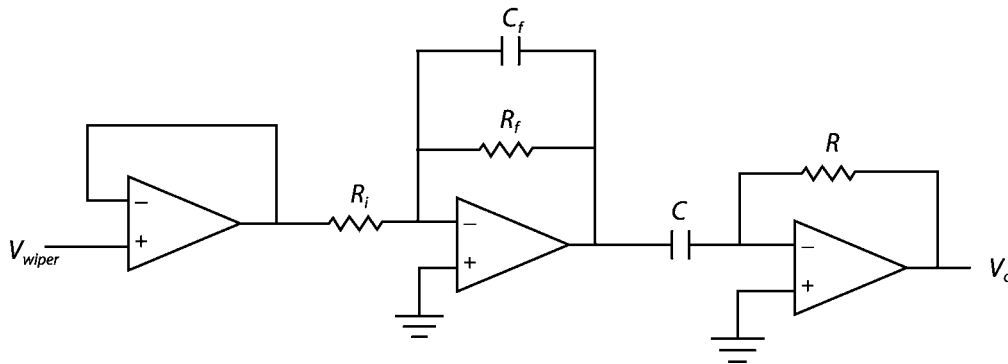

Figure 1: Buffer amplifier filter differentiator circuit.
where V_{in} is the input voltage in volts, θ is the angular position of the wiper in degrees, and θ_{dz} is the angle of the dead zone in degrees. For Equation (1) to be true, we must prevent current from flowing through the wiper (i.e. the input resistance to the circuit the potentiometer is connected to must have a very large input resistance). One effective way of ensuring that no current is drawn from the wiper is to use an op-amp as a buffer (see the first op-amp in the circuit of Figure 1). As you may recall, one of the properties of an op-amp is that its inputs have high input impedances. Therefore, the buffer circuit uses the op-amp to provide the voltage and current necessary to drive the remainder of the circuit while it matches the voltage of the wiper connected to its non-inverting input. A buffer is not required if the data acquisition card of the computer or a digital multimeter is used to measure the wiper voltage since these devices have very high input resistances.
In addition to providing angular position, potentiometers can be used to measure angular velocity using an external op-amp circuit like the one shown in Figure 1. The first stage of the circuit buffers the output of the potentiometer so as not to draw current from the wiper of the potentiometer. The second stage is a low pass filter designed so that the high frequency noise generated by the motion of the wiper will not be transmitted to the third stage. The third stage is a differentiator circuit that differentiates the angular position given by the potentiometer and outputs angular velocity. If the signal from the potentiometer were sent to this last stage directly, without the low-pass filter, the high-frequency noise produced by the wiper motion would be amplified much more than the desired signal from the potentiometer and erratic velocity measurements would result. The most important thing to avoid when using a pot in this fashion is the possibility of connecting the supply voltage or ground connection to the wiper. These connections will burn out the potentiometer when the wiper approaches the grounded or supply terminals when it rotates through the dead zone of the potentiometer.
In the following lab you will be required to design and build the circuits of Figure 1 and 2 above on the fly. This pre-lab is designed to help you design the circuits in the least amount of time possible. To that end, solve the following problems:
11. Design and build a circuit of the form depicted in Figure 1 above that will differentiate the potentiometer signal: resulting in an angular velocity measurement. Make sure that the low pass filter has a cutoff frequency that is at least twice the input frequency and that the overall gain of the circuit limits the output signal amplitude to less than five volts. Record the values of your circuit components below: